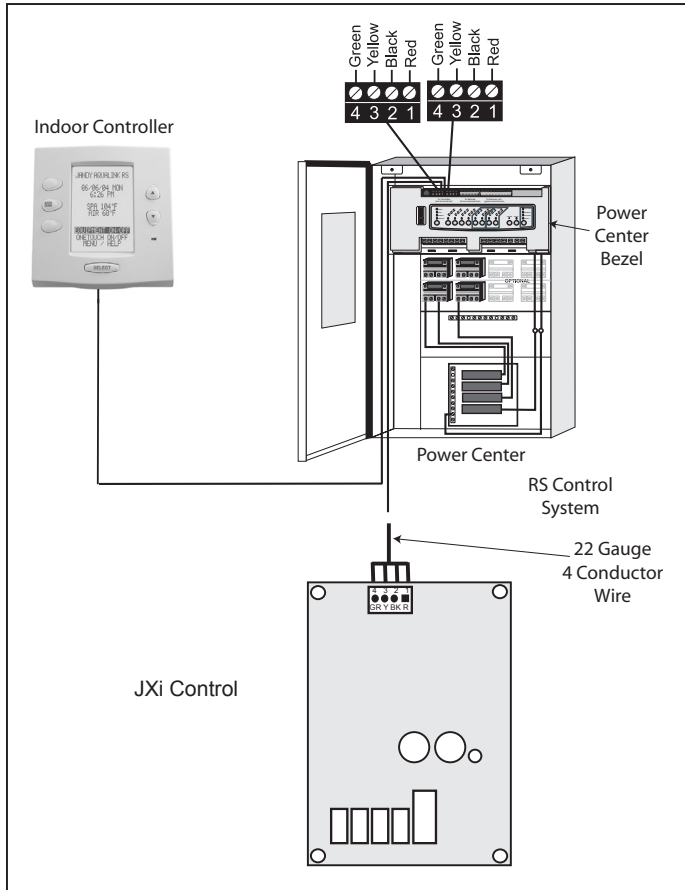

Figure 24. Wiring the JXi to a Zodiac® Remote
3. Use 22 gauge 4-conductor wire to run between the heater and the RS control and match the wire color order (Figure 24).
4. The wires coming from the heater can be "doubled up" on the red terminal bar with the four (4) wires from the indoor controller.
**NOTE** If you need to install more than two (2) wires in each terminal, order a Zodiac® Multiplex PCB Kit, which includes the Multiplex Board (Zodiac part # 6584). Never put more than two (2) wires into each of the pins of the terminal bar.